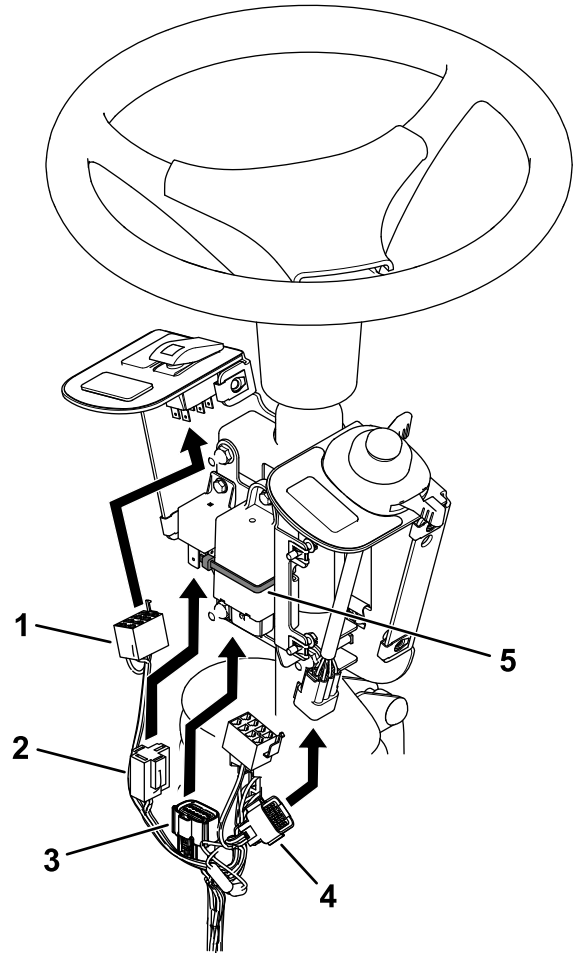

Figure 8
- 5. Secure the flasher using a cable tie (Figure 8).
- 6. Plug the harness into the rocker switch and multi-function switch (Figure 8).
- 7. Plug the wire harness into the relay and flasher (Figure 8).